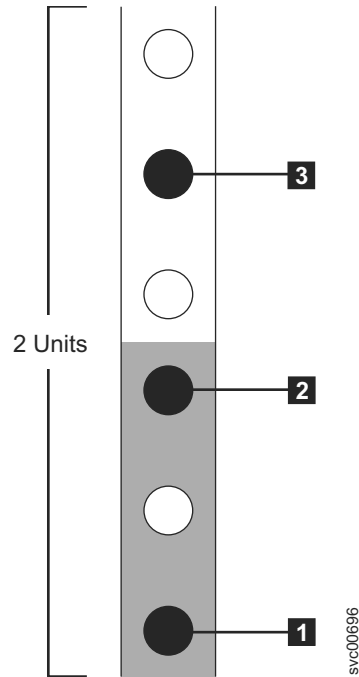

Figure 29. Hole locations in the back of the rack
1. Figure 29 shows two rack units with the back mounting holes identified at the rear of the rack.